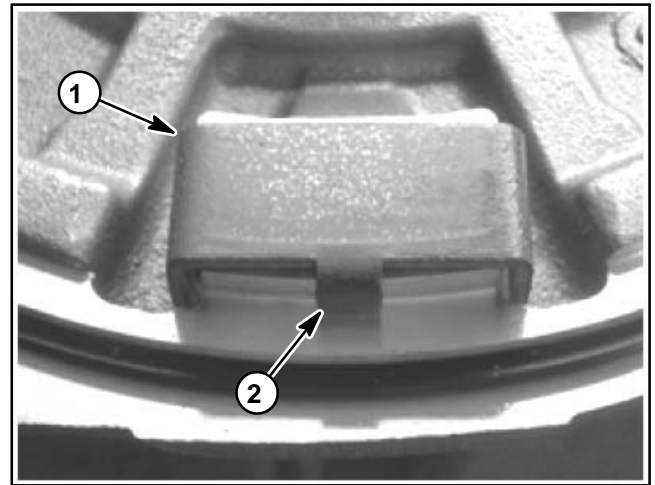

Figure 27
11. Install the thrust bearing onto the thrust button in the cover plate (Fig. 27). Make sure that the tang on the side of the thrust bearing is located toward the outer edge of the cover plate. Use grease or petroleum jelly on the back side of the thrust plate to keep the bearing in position while assembling the cover plate assembly to the gear case.